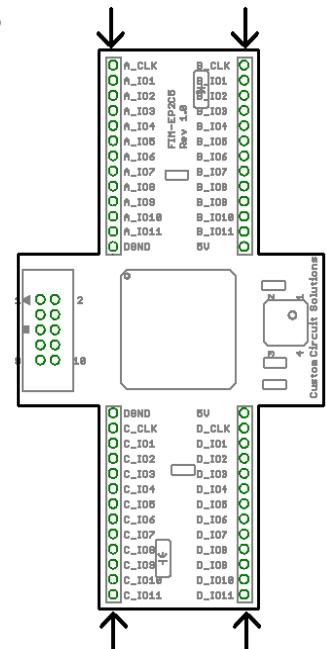

Figure 2: Removal Points
2.2 Removal – Proper care must be taken when removing the unit from a breadboard. To remove the unit, a flat head screwdriver should be used to gently raise each corner of the module at the points shown in Figure 2. DO NOT try to fully remove one corner of the device from the breadboard before raising the other corners. Instead, carefully raise one corner approximately 1/8th of an inch. Then, move to another corner and raise it the same amount. Once all corners have been raised an equal amount, restart the process until the module easily lifts from the breadboard. DO NOT attempt to lift the board at any locations other than those shown in Figure 2. There are components on the bottom side of the board that can be easily damaged. Additionally, lifting from the side tabs of the board can easily torque the board, causing damage to the components.